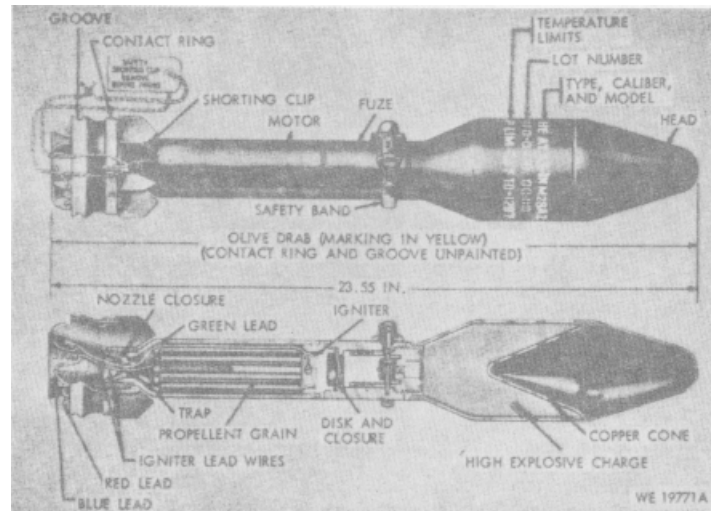

Figure 4-1. 3.5-Inch High Explosive Rocket, HE, AT, M28A2.
a. The high-explosive antitank (HE, AT) rocket (fig. 4-1) which contains a high-explosive shaped charge, is intended for penetration of armored targets.